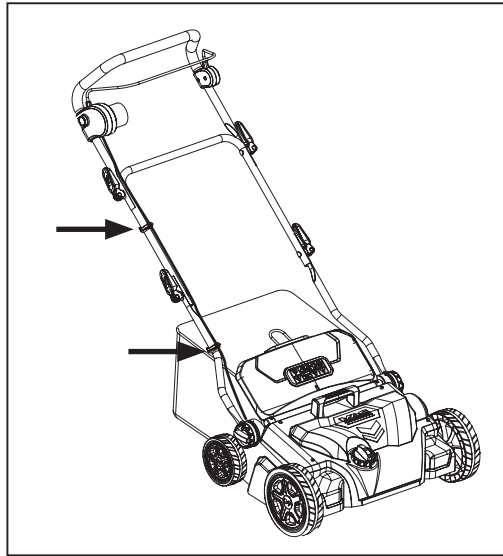

Fig. 11
3. Fix the cord with the cord clips (14) to the lower and middle handle (5, 6) (Fig. 11).